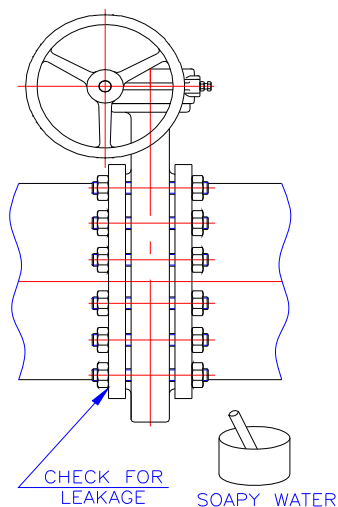

Fig.28
- 17.2.8 After installed the valve in the pipeline, check leakage of flange connecting faces by using compressed air. (Fig.28)